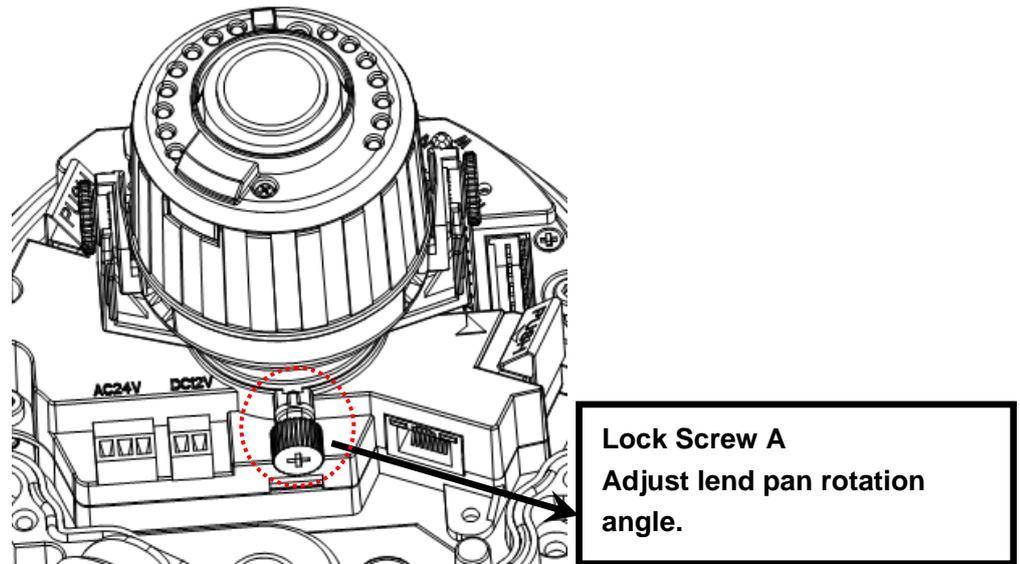
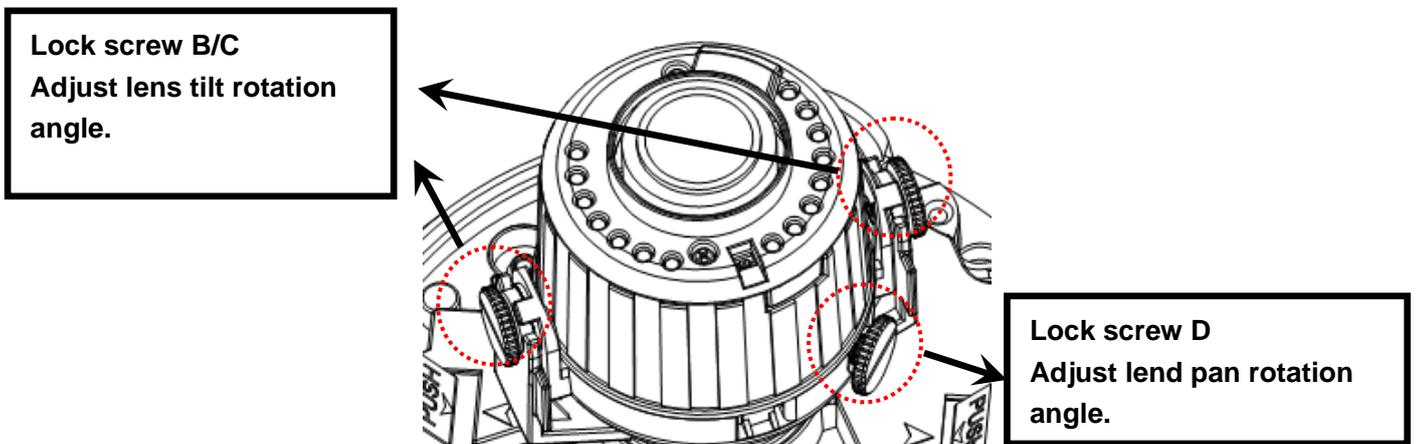

Figure 3-6
Figure 3-7
b) Lens pan rotation angle setup. Please refer to Figure 3-6 to unfasten the lock screw A and adjust the pan monitor angle to the proper position. Then fix the lock screw A. The pan angle ranges from 0°~+350°.
c). Lens tilt rotation angle. Please refer to Figure 3-7 to unfasten the lock screw B and lock screw C and adjust the tilt monitor angle to the proper position. Then fix the lock screw B and lock screw C. The tilt angle ranges from  $-23^{\circ}\sim+73^{\circ}$ .
d). Image pan rotation angle setup. Please refer to Figure 3-7 to turn lock screw D to adjust the video pan angle. Then fix the lock screw B and C. The video pan angle ranges from  $0^{\circ}\sim+350^{\circ}$ .
Please note Figure 3-6 and Figure 3-7 is based on the IR motorized zoom camera. For the IR manual zoom camera and non-IR series product, the lock screw position and the lens angle adjustment are the same.